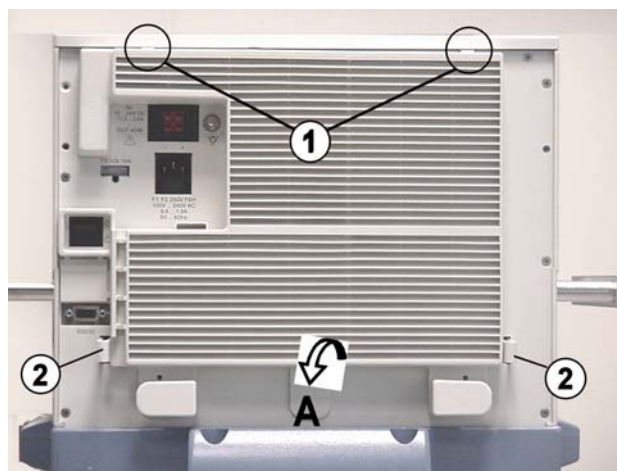

Fig. 27 View of unit rear; pins and filter cover
4. Slot the two pins (Fig. 27/1) on the top of the filter cover into the recesses in the rear panel, swing the filter cover down towards **A** and press the catches (Fig. 27/2) into the rear panel until they lock in place.